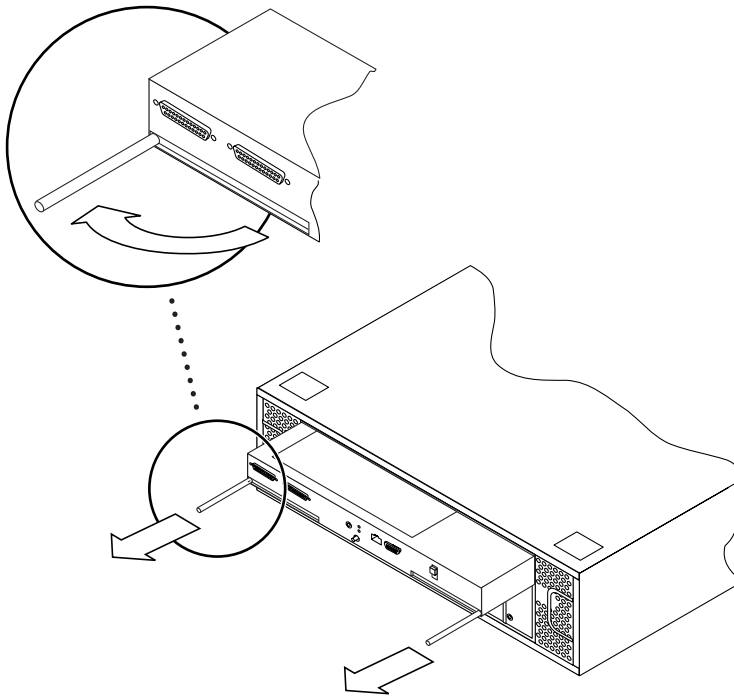

FIGURE A-1 Removing the Netra st D1000 Controller Board
7. Slide the controller board out and set it on an antistatic mat (FIGURE A-1).